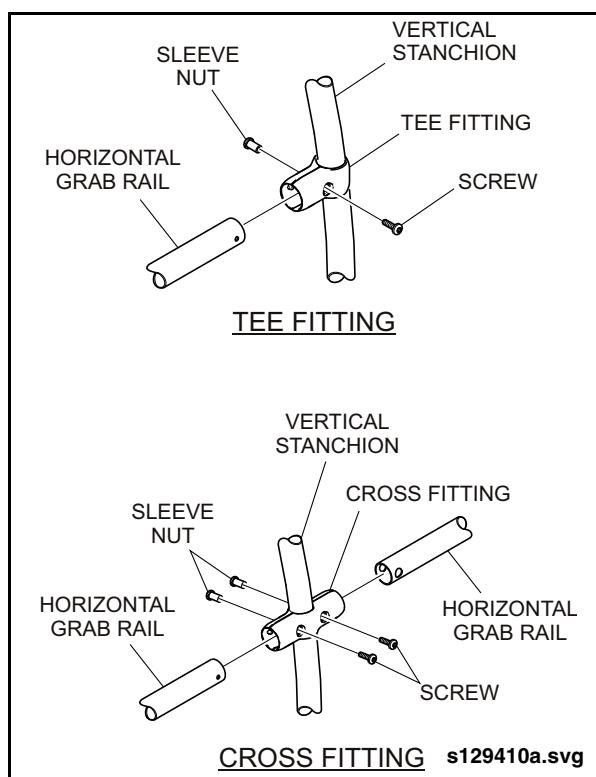

Fig. 17-15: Tee & Cross Fitting Connection
3. Loosen the attaching hardware on the tee fitting or cross fitting that attaches the vertical stanchion to the horizontal grabrail. See "Fig. 17-15: Tee & Cross Fitting Connection" on page 18.